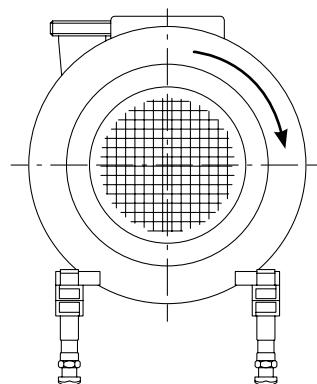

Fig. 12.2.1b Pump with impeller screw fitted
- Ensure that the direction of rotation of the motor fan is clockwise as viewed from the rear end of the motor (Fig. 12.2.1b)